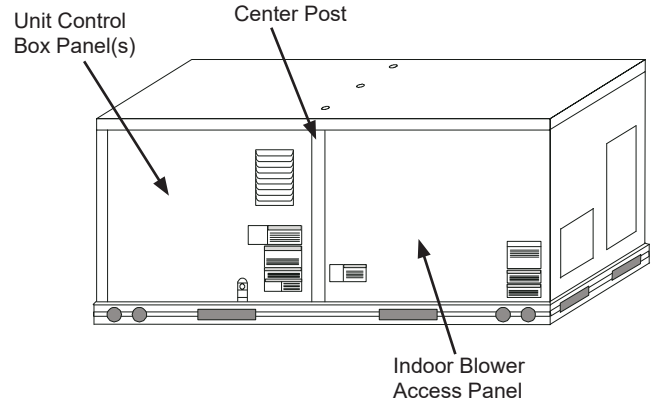

Figure 3 - Typical Indoor Fan Motor Access Panel Locations
Step 5: Remove the indoor blower access panel and the panel(s) covering the unit control box. See **Figure 3**.